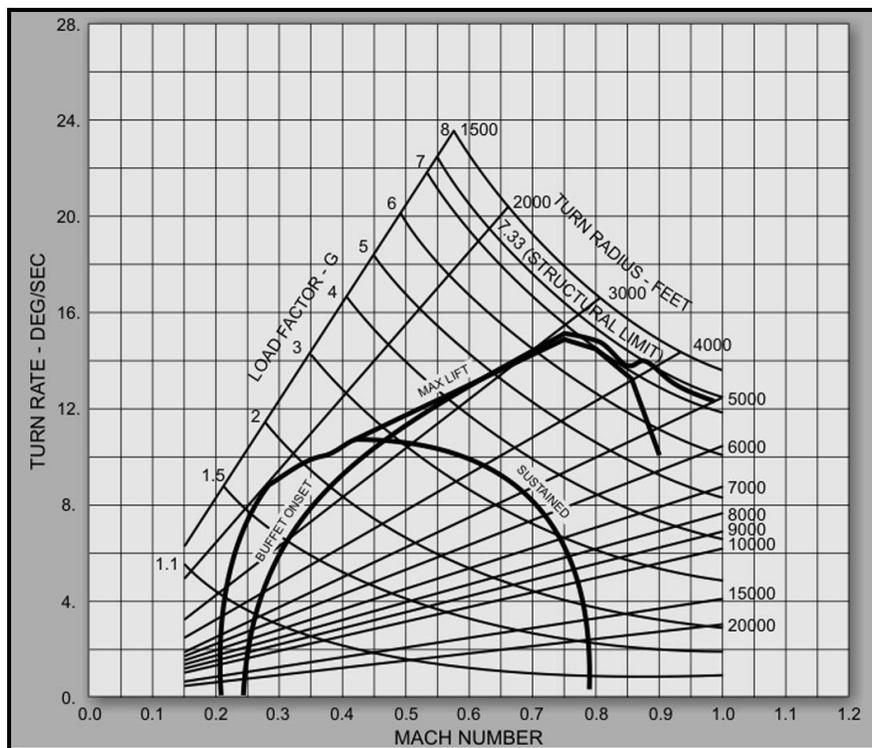

Figure 1-3 T-45C E-M Diagram (10,000 MSL)
Other than gravity, the greatest parameter affecting the amount of radial G an aircraft can generate is its energy package, or Total Energy. Total Energy (TE) is the combination of the aircraft's Potential Energy (PE), (represented by the aircraft's altitude), and its Kinetic Energy (KE), (represented by the aircraft's airspeed). The Energy-Maneuvering (E-M) diagram is a graphical comparison of the aircraft's turn performance capability in relation to its energy state. The E-M Diagram is a mosaic of several graphs, overlaid on a Cartesian Plane, depicting Turn Performance (in degrees per second) versus Airspeed (in KIAS). Load Factor (G) and Turn Radius curves are also depicted because they are related to airspeed and turn rate. The E-M Diagram is the blueprint by which aircraft are employed in the BFM arena. Figure 1-3 is an E-M Diagram for a T-45C in the clean configuration, at Military Rated Thrust (MRT) at 10,000' MSL.